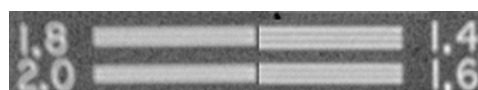

Figure 2. Spatial Resolution: the 1.4 and 1.6 line-pair/mm targets are resolved. The 1.8 and 2 targets are not resolved.
- Spatial resolution: A standard bar pattern insert is included in the central test plate. The test plate is placed with the bars at 45° to the video lines or digital image matrix. This produces the smallest change in the moiré pattern, resulting from a small change in angle. See Figures 2 and 3.